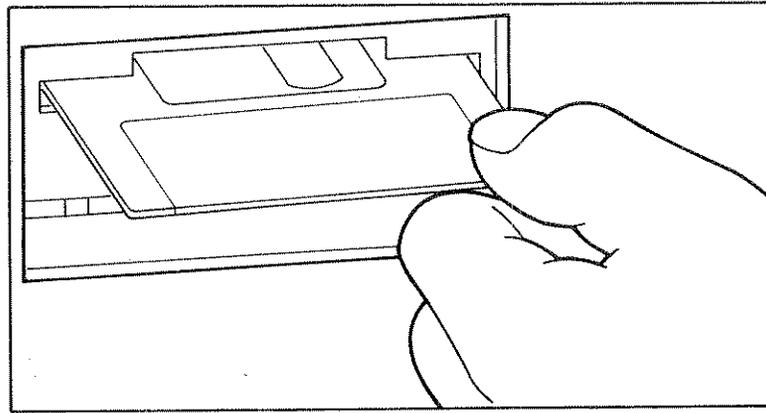

Figure 2-2: Proper Loading of the Flexible Disc
2. Hold the disc with the label on the top and the shutter pointing at the slot in the disc drive. Slide the disc into the drive until you feel the disc drop into the slot. Do not force the disc. See figure 2-2 for proper loading of the disc.